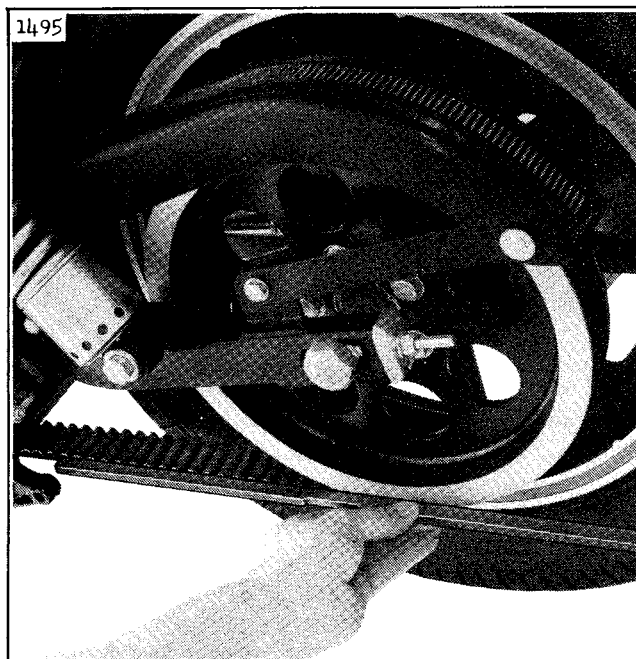

Figure 5. Secondary Belt Alignment
2. (See Figure 5.) Lay a straightedge across the side of the rear wheel sprocket near the bottom. The distance between the edge of the belt and the straightedge must be equal along the full length of the straightedge. Turn the adjuster accordingly to correct any misalignment.